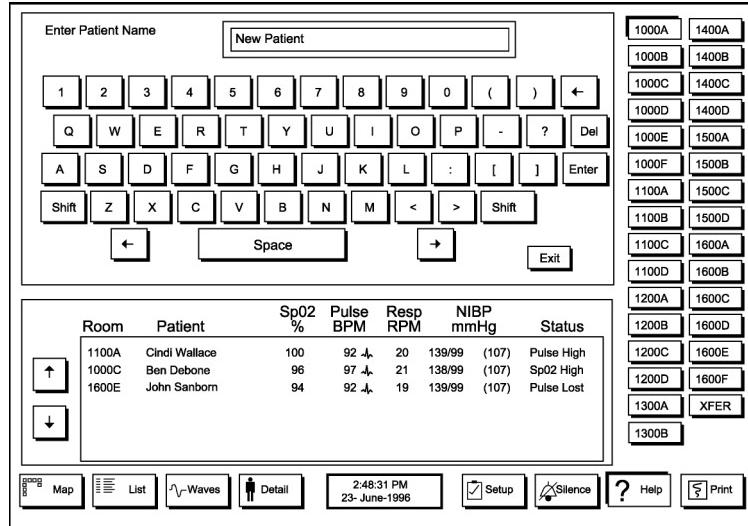

Figure 38: Patient Name Data Entry Screen
3. Click the Admit button. The Enter Patient Name data entry screen appears titled as shown in Figure 38.